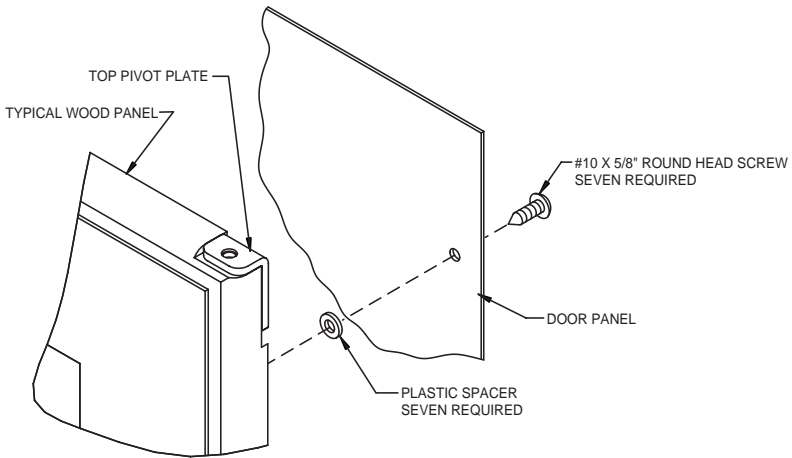

Figure 6
- d. Attach the door panel to the wood panel using #10 x 5/8" (P/N 42121) wood screws and nylon spacers (P/N 42120). The nylon spacers fit between the wood panel and the door panel as shown (see Figure 6).